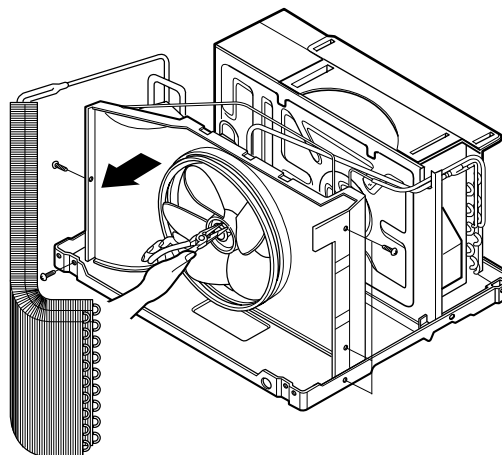

Figure 6
7. Remove the fan and then pull out the shroud. (See Figure 6)